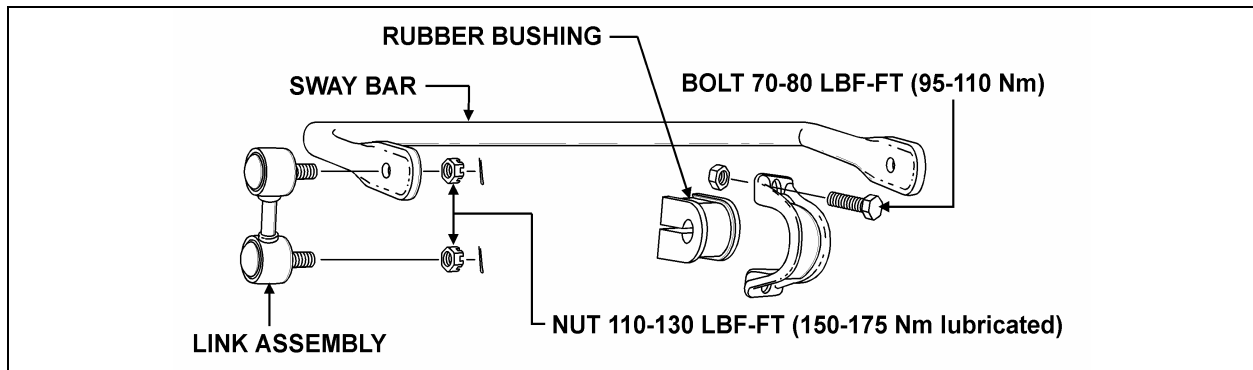

FIGURE 10: I-BEAM FRONT AXLE SWAY BAR
A sway bar is provided on the front axle to increase vehicle stability. It controls lateral motion (swaying movement) of the vehicle (Fig. 10).
2. Tighten the eight bushing collar nuts to 70 - 80 lbf-ft (95 - 110 Nm) (Fig. 10).
3. Install two sway bar link upper and lower nuts and tighten to 100 - 130 lbf-ft (150 - 175 Nm) (Fig. 10).